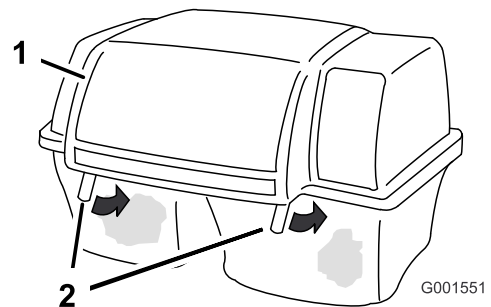

Figure 9
3. Lower the bagger top onto the bags. Then push down on both bag retainer handles until they lock on the bag frame (Figure 9).